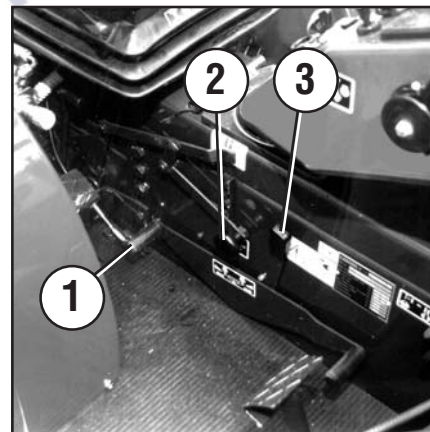
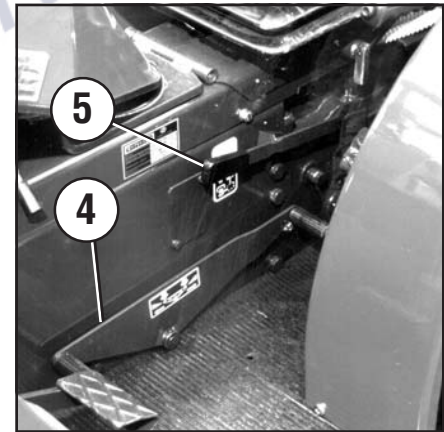

Fig. 30
Fig. 31
- bring the selector lever to the gear position required (slow - regular - fast, 2 Fig. 30);
- push the hydrostatic gear pedal (1 Fig. 30 - 4 Fig. 31) slowly in the operating direction desired accelerating the engine as necessary;
- if necessary, the pedal can be locked with lever (3 Fig. 30) in order to maintain a constant speed.
- the pedal stop lever (3 Fig.30) and bring the gear pedal to mid-stroke position (stop);
It is driven directly by the engine and is totally independent of the gearshift; it can therefore be used either while the machine is stopped or running. To start power takeoff rotation, disengage the clutch and move lever (5 Fig. 31) to position 540 or 1000.